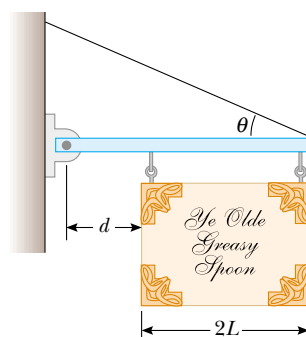

Figure P12.45
45. A uniform sign of weight F_g and width $2L$ hangs from a light, horizontal beam, hinged at the wall and supported by a cable (Fig. P12.45). Determine (a) the tension in the cable and (b) the components of the reaction force exerted by the wall on the beam, in terms of F_g , d , L , and θ .